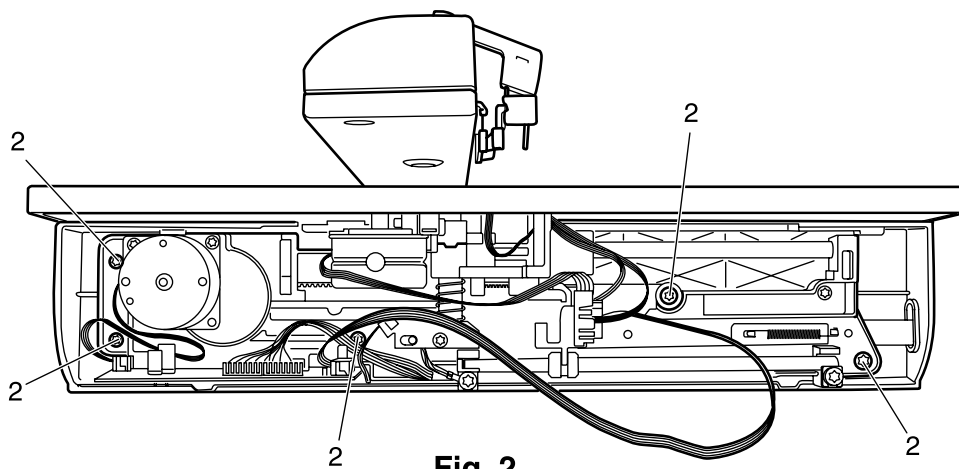

**Fig. 2**
4. Unscrew the five Torx screws 2 of the rear cover (Fig. 2).